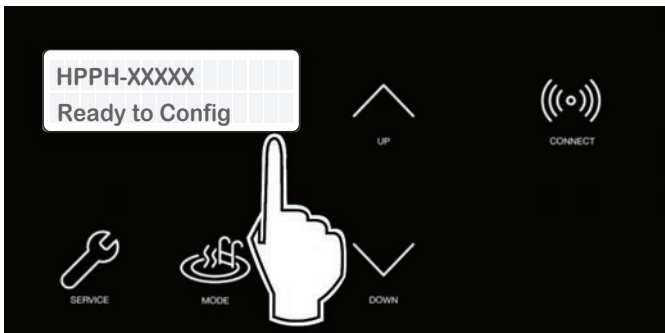

Figure 71. Wi-Fi Ready to Configure and HOTSPOT Identifier
2. The CONNECT menu displays the Wi-Fi State, indicating "Ready to Config" wireless connection, and also the HOTSPOT identifier. See Figure 71.